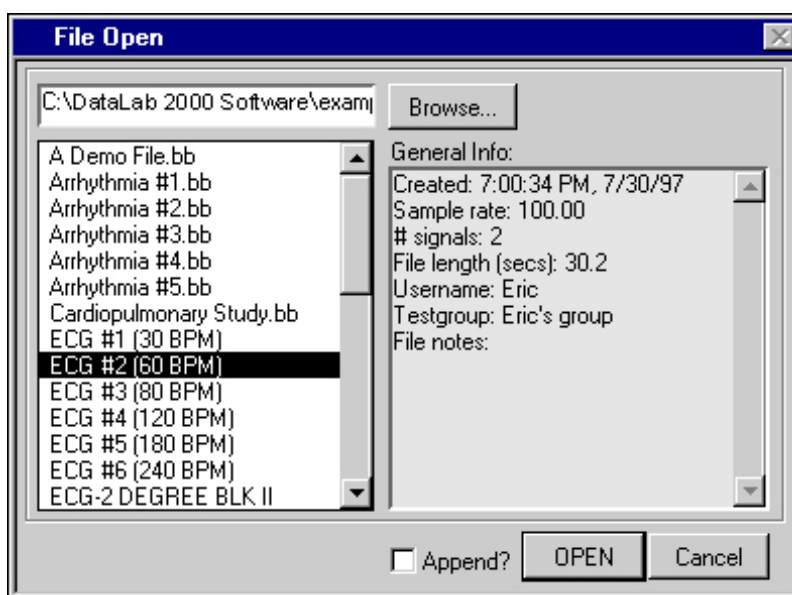

Figure B-18. Selecting a Data File with the File Open Dialog Box
- Click on the **Open Files** button to open a data file. The File Open dialog box appears as shown in Figure B-18. (You may have to use the **Browse** button to navigate to the \datalab2000software\examples directory.)